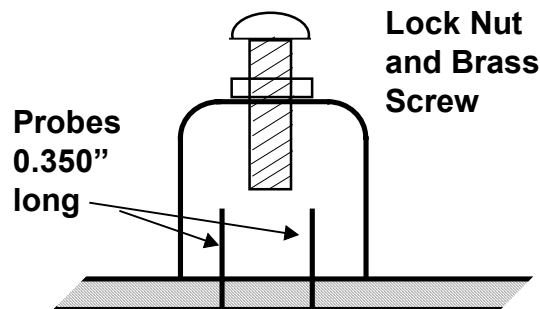

FIG 8
2. If you are using a spectrum analyzer to tune the transverter, install all of the filter pins (14) as shown in figure 8. The pins that are supplied in the kit are the correct length (0.300"- 0.350" long) if you just cut off the tapered sharp points. Now insert and solder. Connect the spectrum analyzer to the LO test point and apply 9VDC to the +LO and the MICRO LO. Adjust F1 and F2 for maximum signal. When complete, remove voltages, and move C11A to the C11B operating position connecting the mixers to the LO. Then remove the SMA test connector. Proceed to step #6.